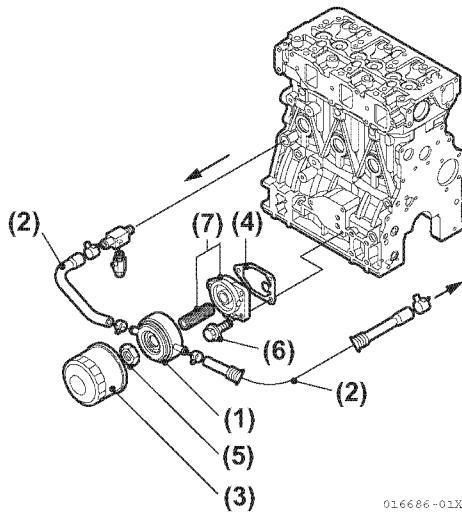

Figure 5-171
44. Install the filter bracket and gasket on the cylinder block (Figure 5-171).
45. Install the lubricating oil cooler to the filter bracket. Tighten the lubricating oil cooler nuts (Figure 5-171).
46. Install the freshwater pipes; (cylinder block, lubricating oil cooler, lubricating oil cooler, freshwater pump (Figure 5-171).
47. Install the lubricating oil filter with the filter case remover tool (Figure 5-171).